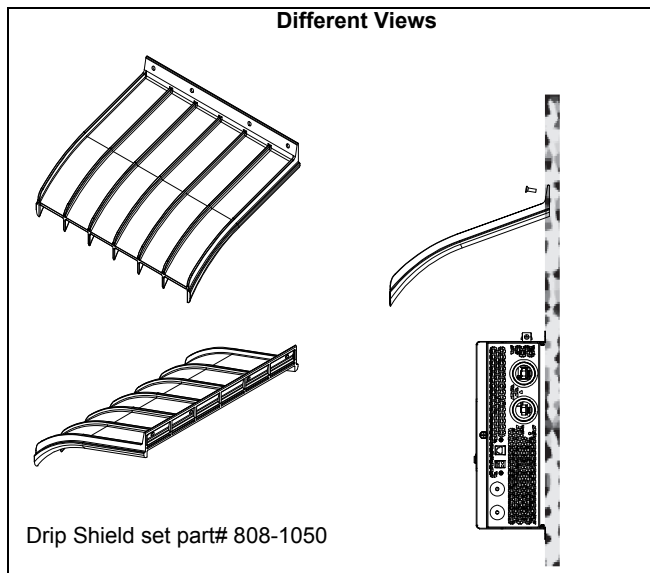

Figure 8 Drip Shields
3. Fasten the screws through the holes in the drip shield into the wall. See Figure 8.